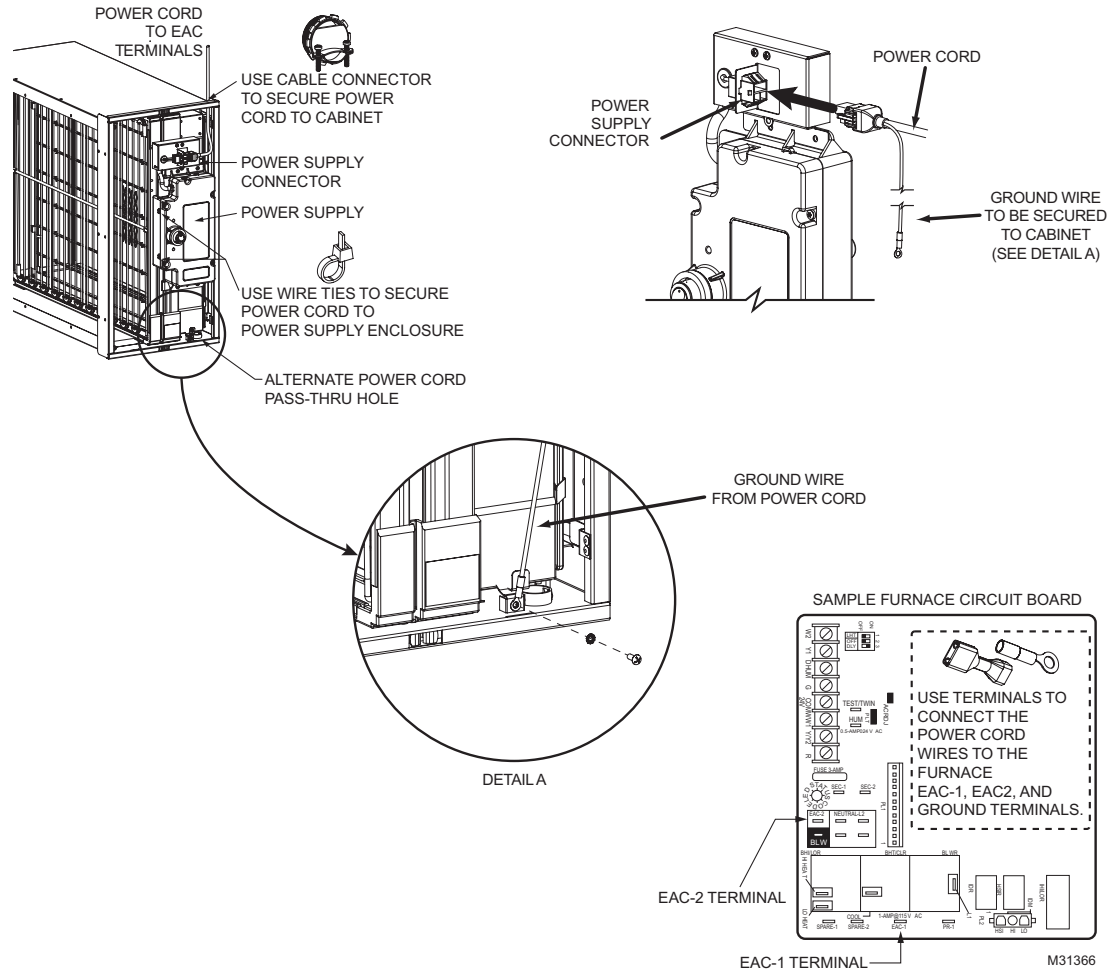

Fig. 15. Electrical connections.
- Connect the power cord to the power supply connector (see Fig. 15).
- Secure the power cord ground wire to the ground terminal on the cabinet using the screw provided in the ground terminal (see Fig 15).
**Models FH8000F:** Unplug the power cord from the enhancement module (see Fig. 15 on page 17).
**Models FH8000F:** Reconnect the power cord (see Fig. 15 on page 17).